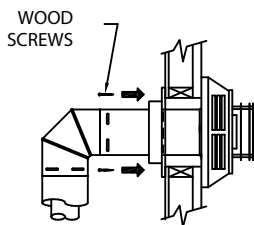

Figure 9
Step 7. Slide the Wall Thimble Cover up to the wall surface and attach to the wall with screws provided **(Fig. 9)**. Apply optional decorative brass trim to Wall Thimble Cover, if desired.